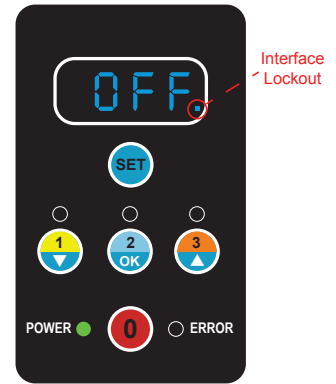

Figure 10
- When the user interface is locked, there will be a dot "." in the lower right corner of the LED display. (See Figure 10)